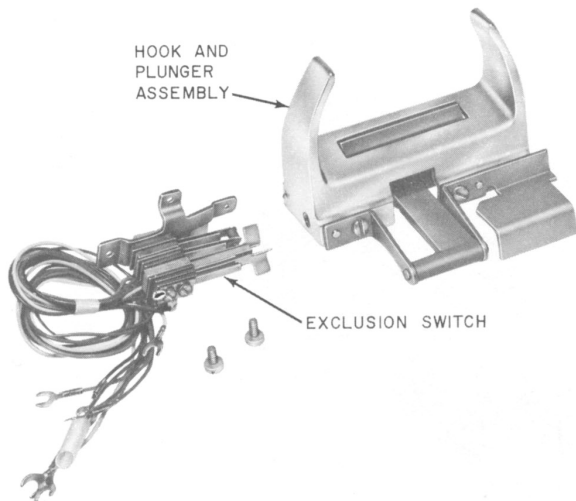

Fig. 5—D-180383 Kit of Parts
3.11 Install the exclusion feature (D-180383 Kit of Parts, Fig. 5) as follows: